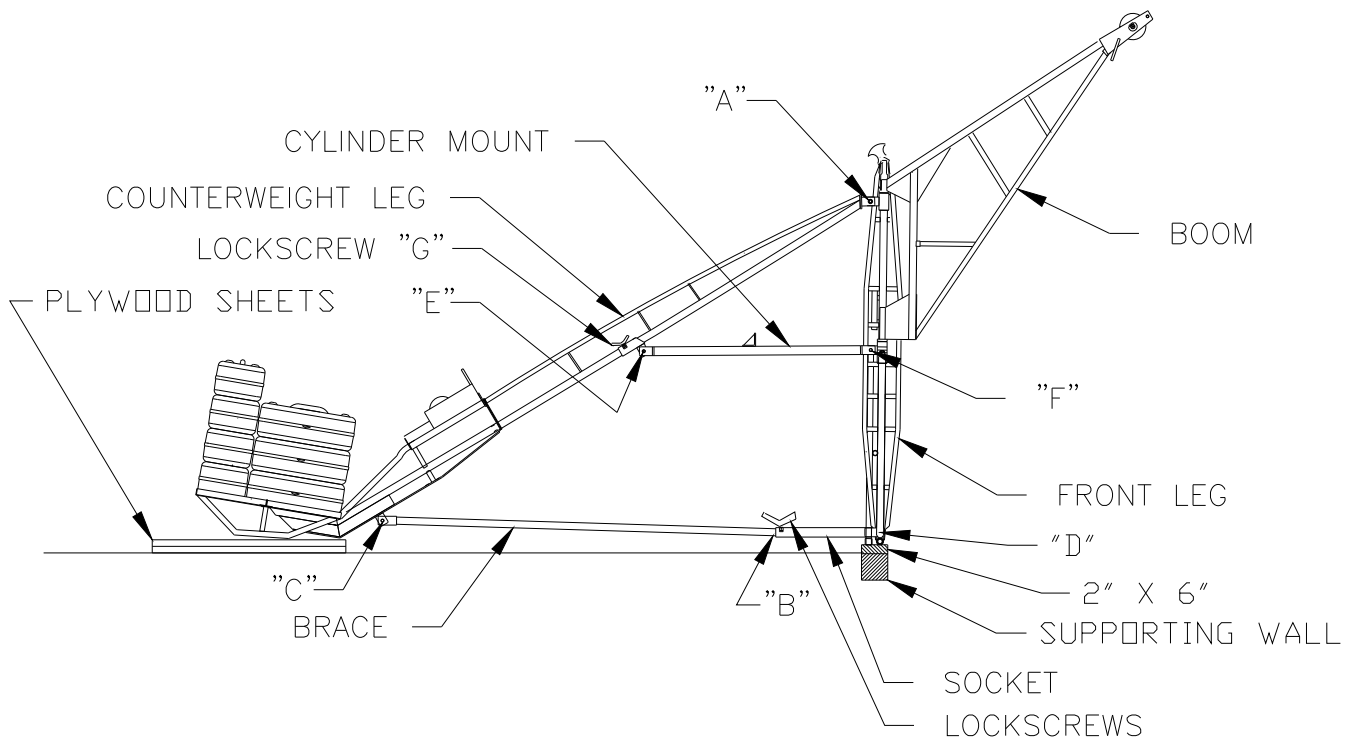

Figure 5-1.
5. Loosen the lockscrews at point B (Figure 5-1).
6. Remove Brace from Counterweight Leg by removing the pin and hairpin at point C. See Figure 5-1.
7. Remove the Socket from the Front Leg by removing the pin and hairpin at point D. Then slide the Socket out of the Brace. See Figure 5-1.
8. Remove the Cylinder Mount by removing the pins and hairpins at points E and F. See Figure 5-1. Loosen the lockscrews at point G as necessary on sliding tube connecting Cylinder Mount to Counterweight Leg. Have one person steady the frame while doing this.